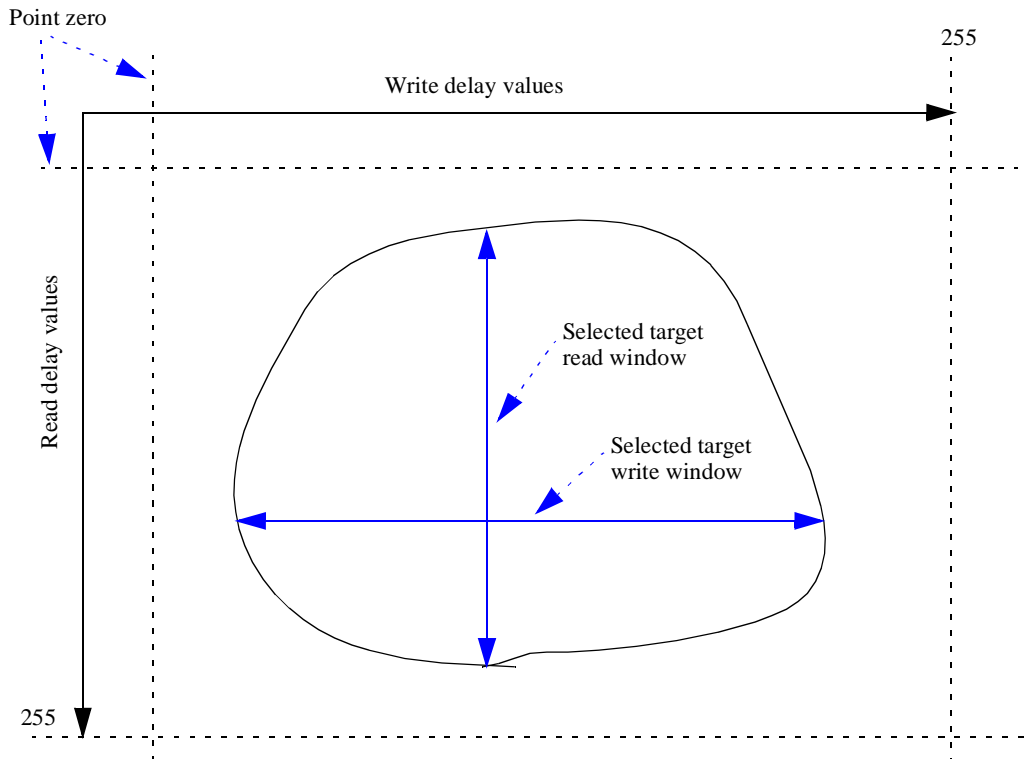

Figure 4. Selection of the Target Window
6. Find the target write window—Program the read delay values that were found. Starting from point zero, increase the value of DLY_ABS_OFFSET_5 by 5 units (until it reaches the maximum value –255) and invoke the typical check function. Select the largest window, as shown in Figure 4. The resulting window is the target write window, which is used to find the true write window in step 8.
The target window is selected by taking the largest working window that is found. This is done for read (per each byte) and write, as shown in Figure 4.